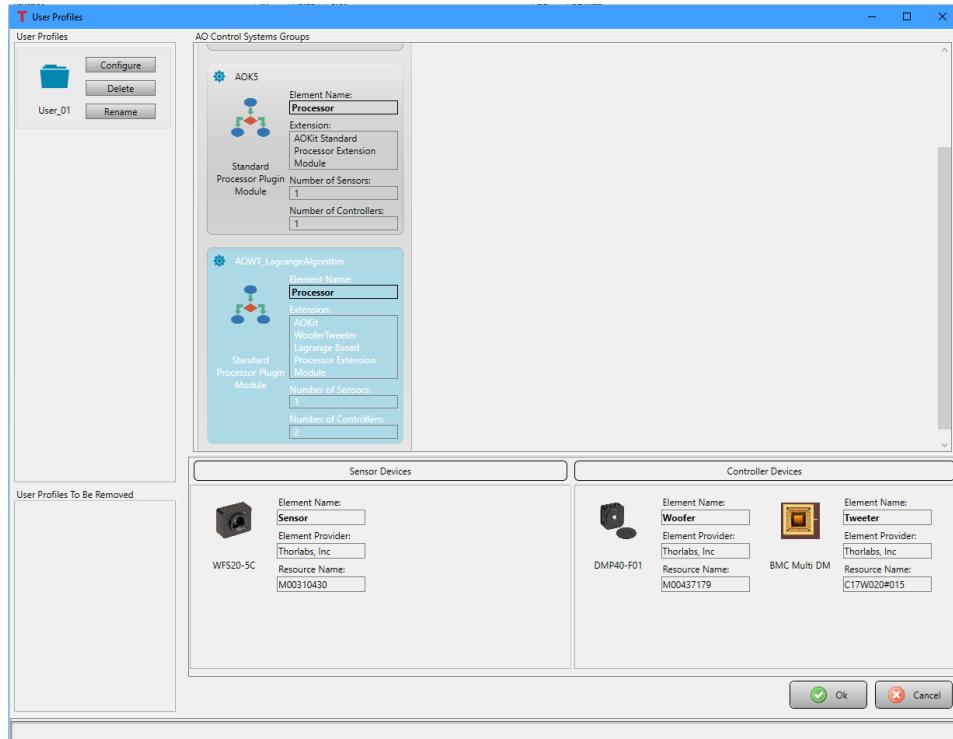

Figure 89 User Profile window is showing the newly created Woofer-Tweeter control system, as well as the details about the linked sensor and controller devices.
7. Click the **Ok** button to close the window, which will update the User Profile window to include the details about the devices linked to new system. See Figure 89.